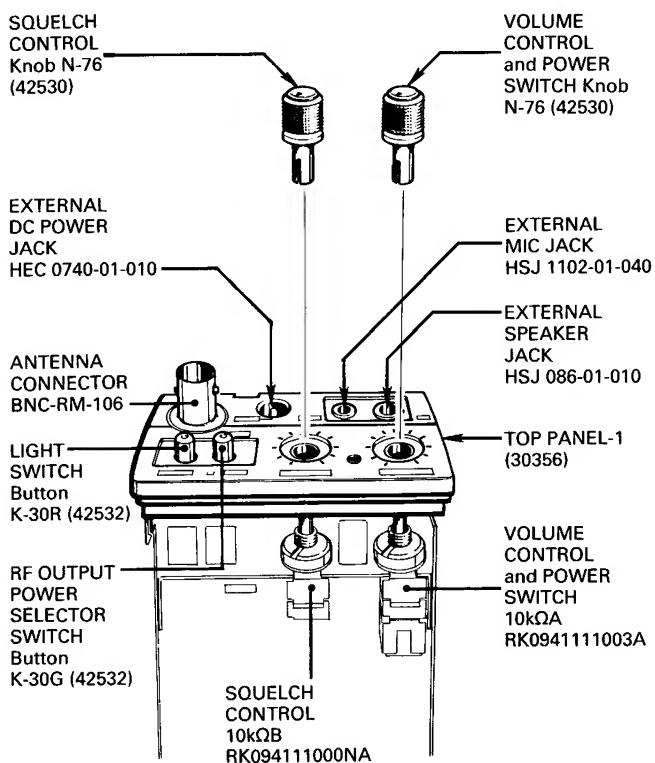
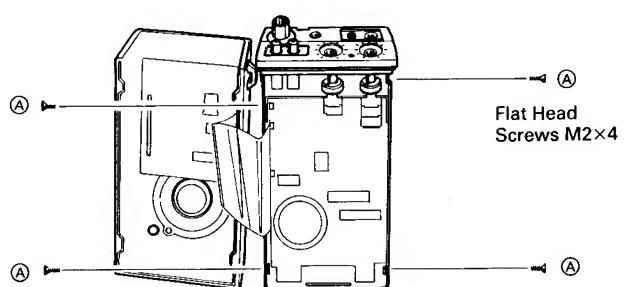

Fig. 5-1-5
Fig. 5-1-6
5. To see the foil sides of the MAIN and PLL UNITS, remove the SQUELCH CONTROL and VOLUME CONTROL and POWER SWITCH knobs as shown in Fig. 5-1-5. Remove the four screws \textcircled{A} on the sides of the inner frame as shown in Fig. 5-1-6.